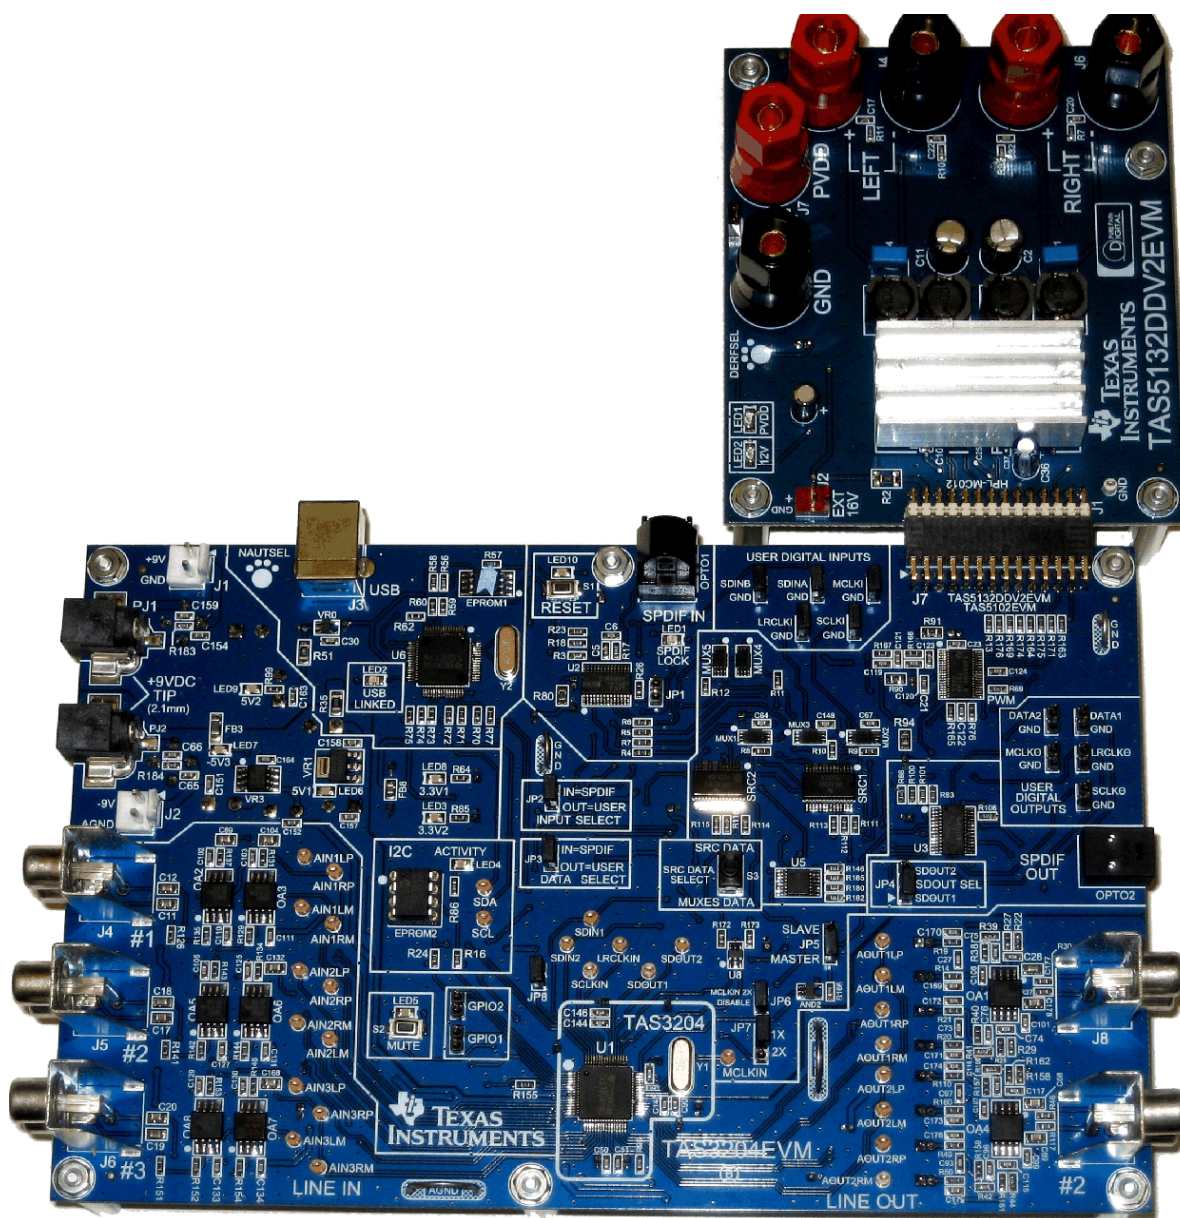

Figure 3-1. TAS3204EVM and TAS5132DDV2EVM
1. Connect the TAS5132DDV2EVM to the TAS3204EVM (see Figure 3-1).